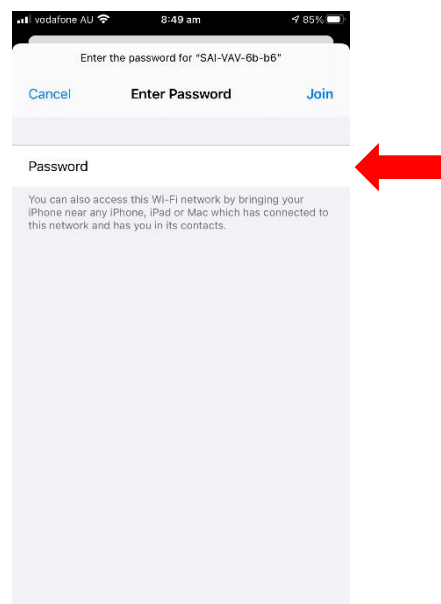

Figure 2 – Enter the password – “chatterbox”
2. The Password is “chatterbox” (*Figure 2*)